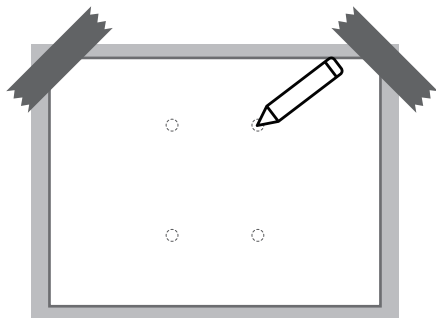

Fig. 5-20
2. Place the installation template on the wall and mark the mounting holes. (See Fig. 5-20)